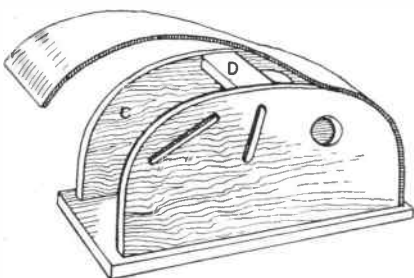

Fig. 2—The curved top being put in place
After the edges have been cleaned with glasspaper, glue the front and the back to the base, leaving a clear space of 1 1/8ins. between the two pieces. A narrow stiffening piece (D) in Fig. 2, made 1 1/8ins. long and about 1/8in. wide will be glued in to hold the front and back rigid until the curved top is put on.